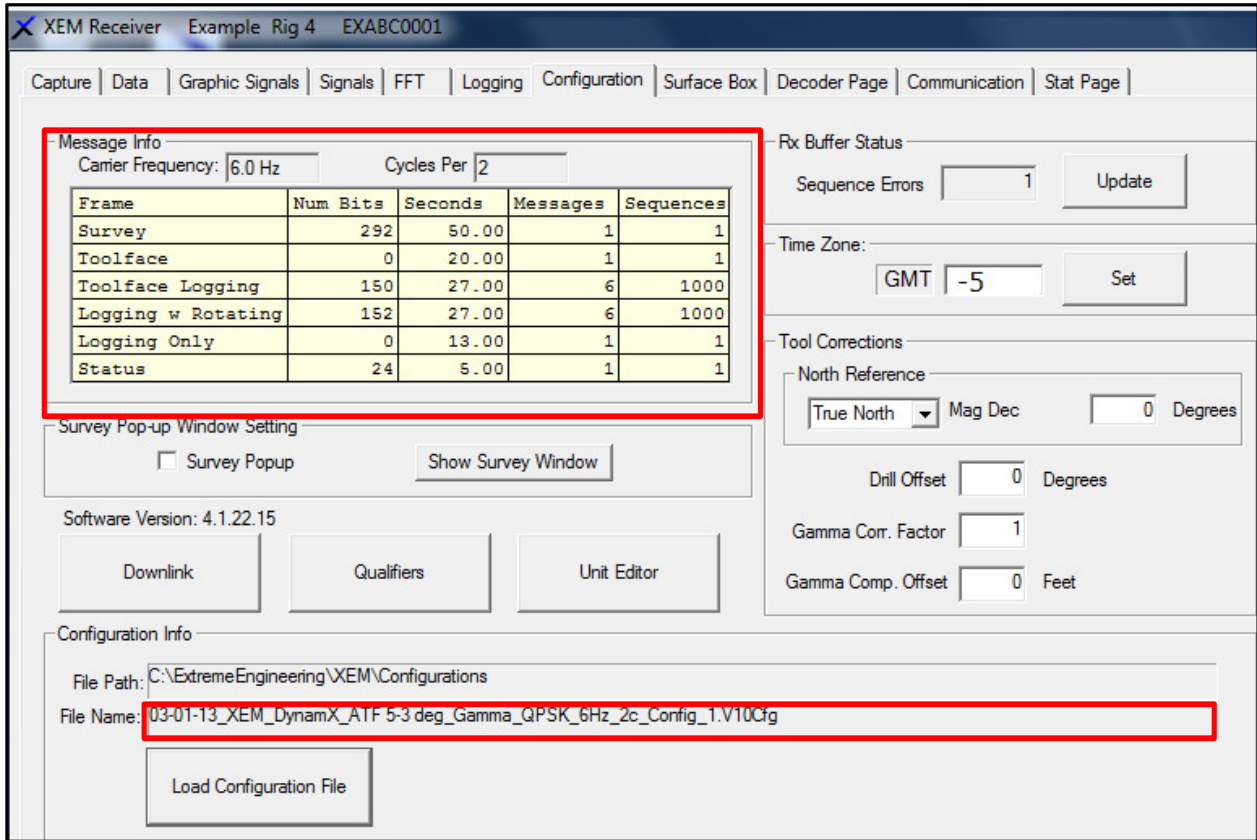

Figure 6 Message and configuration information
- In Figure 6 the Survey has 292 bits and is transmitted in 50 seconds.